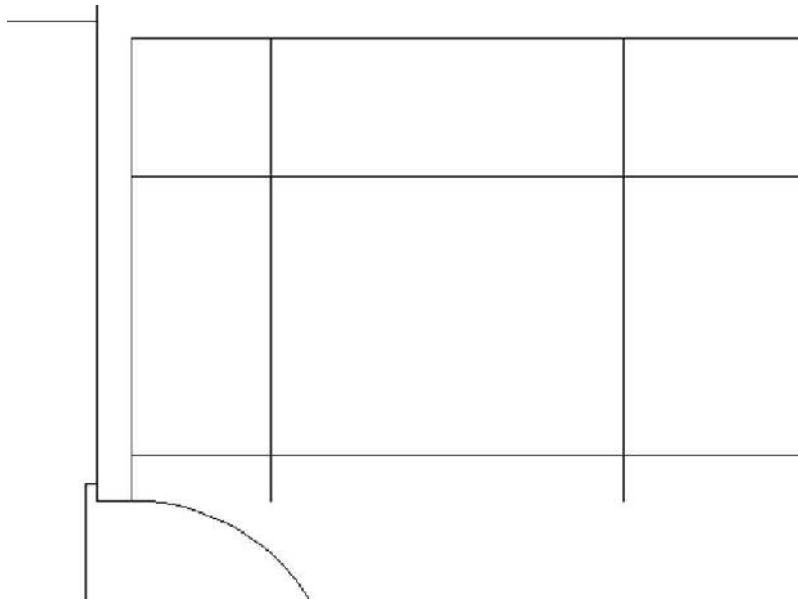

FIGURE 5.41: Offsetting wall lines to create the counter
4. Next, offset the inside top wall line 6’-0” (1829 mm) downward—the sum of the two counter dimensions and the stove dimension (see Figure 5.41).